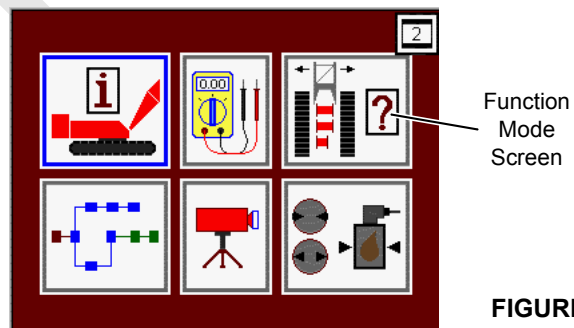

FIGURE 3-29
4. Enter the function mode screen on the main display (Figure 3-29).